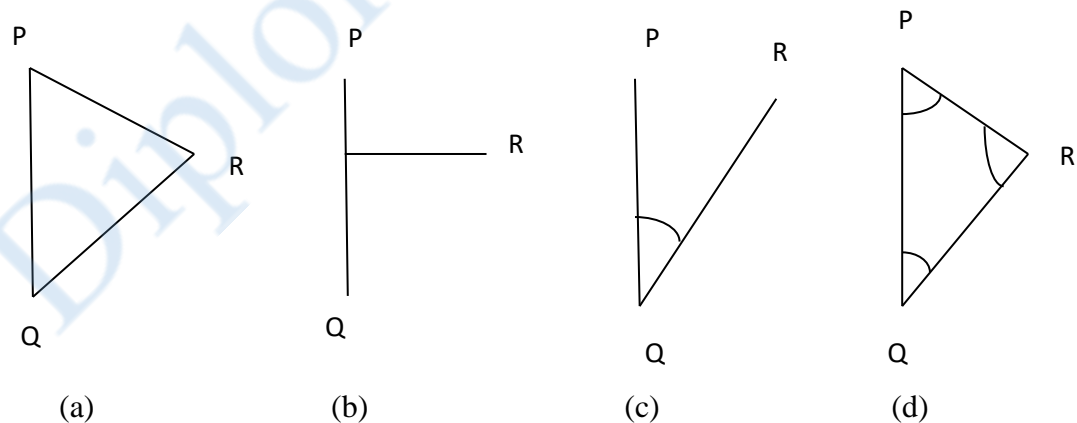

Fig.1
- (i) *By measuring distances PR and QR:-* The distances PR and QR may be measured and the location of R may be plotted by drawing arcs to the same scale to which line PQ has been drawn as shown in Fig 1 (a).
- (ii) *By dropping a perpendicular from R on PQ:-* A perpendicular RT may be dropped on the line PQ. Distances PT, TQ and RT are measured and the location of R may be plotted by drawing the perpendicular RT to the same scale to which line PQ has been drawn (Fig. 1 (b)).
- (iii) *By measuring the distance QR and angle PQR:-* The distance QR and the angle PQR equal to  $\alpha$  are measured and location of R may be plotted either by means of a protractor or trigonometrically (Fig 1 (c)),
- (iv) *By measuring the interior angles of the triangle PQR:-* The interior angles P, Q and R of the triangle PQR are measured with an angle measuring instrument such as theodolites. The length of sides PR and QR are calculated by solving the triangle PQR and coordinates of R are calculated in the same terms as those of P and Q. Even without calculating the co-ordinates, or sides the location of R can be obtained by plotting the angles PQR and QPR (Fig 1(d)).